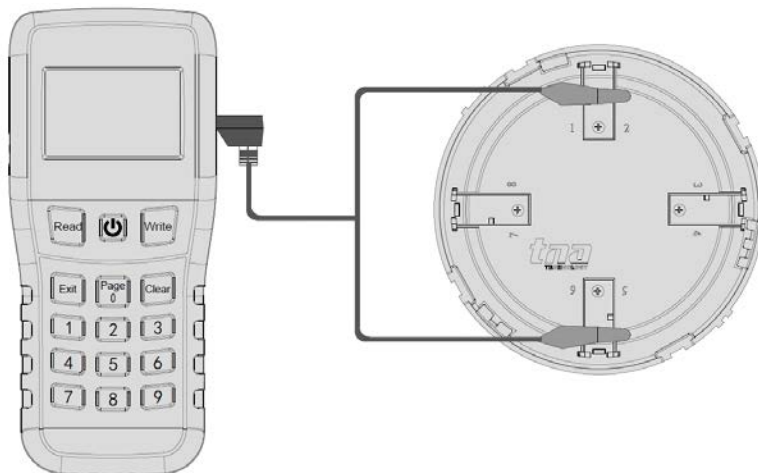

Figure 2
1. Connect the programming cable to Z1 and Z2 terminals (Figure 2). Press **“Power”** to switch on the unit.